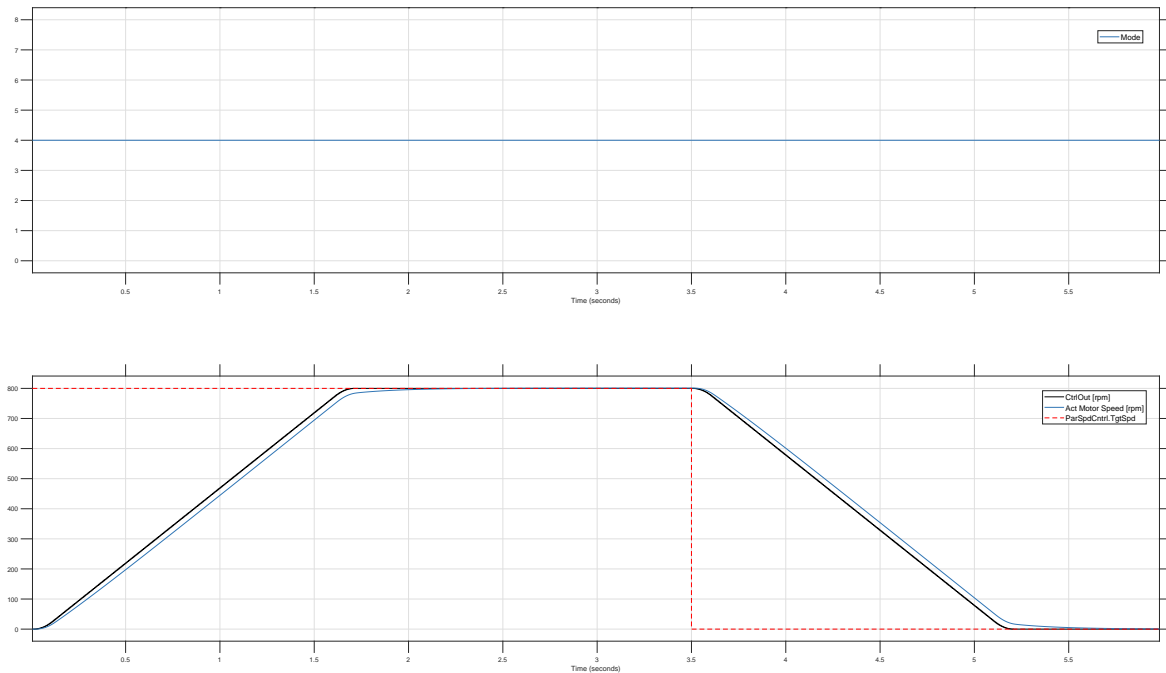

Figure 15: Frequency Drive with poorly set controller parameters. Relatively large Lag Error.
4. The behavior in figure 15 is an improvement compared to the previous figures, but there is still a relative large Lag Error: